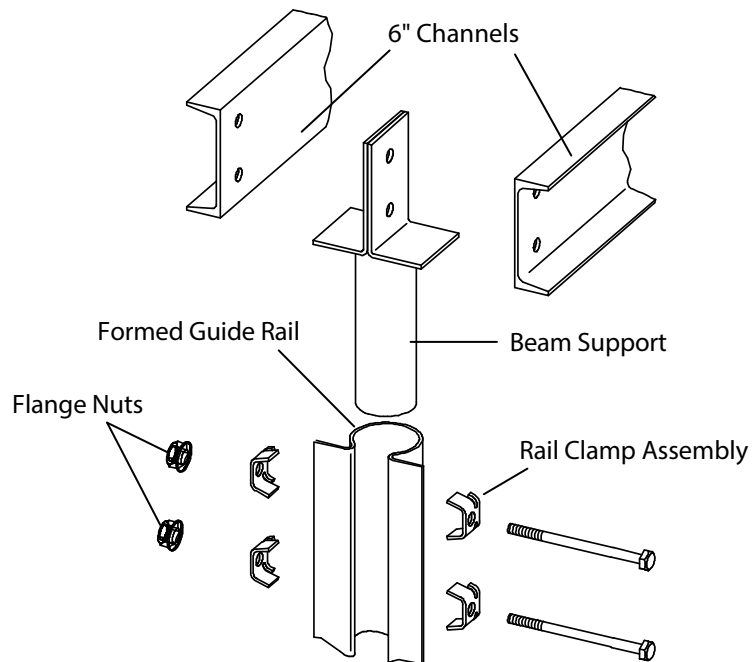

Figure 5 - Support Beam Mounting
9. Install the support beam mounting assembly for hoisting and setting the jack. See Figure 5.